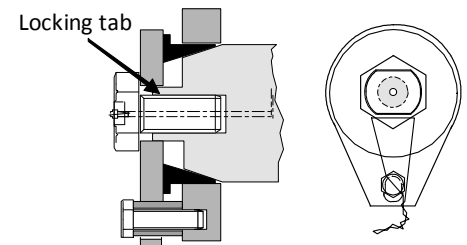

Fig. 3a Locking of 20-65 mm dia bolt
Applies to Bondura 6.6 & 6.0 dia 20-65 mm: **NOTE! Remember that the locking tab on the bolt must fit into the slot on the locking plate (see Fig. 3a.)**
- 4.1 As an extra precaution, the locking plate must be fastened with a locking screw to the equipment. Use the clamping screw protector to ensure that the locking plate is not bent when tightening the locking screw (see Fig. 3a and 3b).